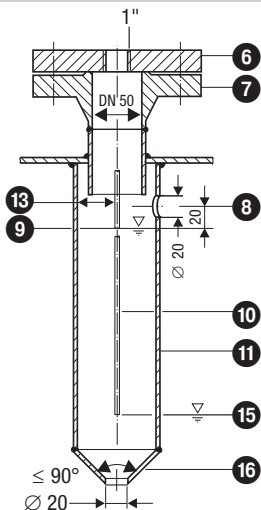

Fig. 4 Protection tube (provided on site) for installation inside the boiler
- One level electrode NRG 10-52 / NRG 16-52 can be installed together with one GESTRA level electrode, one compact level switch or transmitter in a single protection tube or external level pot (inside diameter 100 mm). **Fig. 4 - 7.** If the level limiting electrode is installed inside the vessel, it must be at least 40 mm away from the upper vent hole.
- Make sure that the air distance between the electrode tips and earth (flange, vessel wall) is not less than 14 mm. **Fig. 4 - 7.**